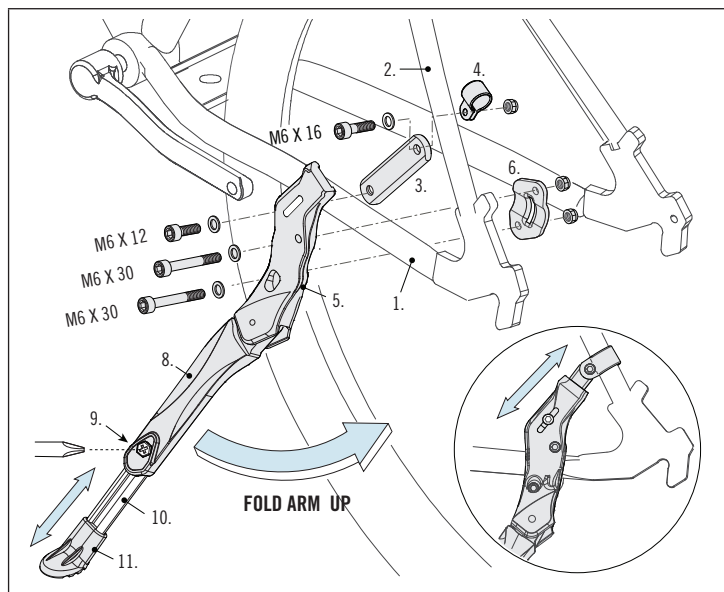

Figure 1.
Installation & Adjustment : (Figure 1.) Install the rear mount kickstand by clamping it onto the frame non-drive side chainstay (1) and seat stay (2). The chainstay connecting arm (3) and chainstay clamp (4) are adjustable to accommodate different fitting positions. Make sure the pad material on inside surface of the chainstay clamp (4) kickstand body (5) and clamp (6) cover contact area with frame. The length of the extending arm (10) is adjustable. To do it, loosen the set screw (9) with a philip screw driver, set extending arm (10) length so the foot (11) is positioned on the ground. Tighten the set screw (9) securely when finished.